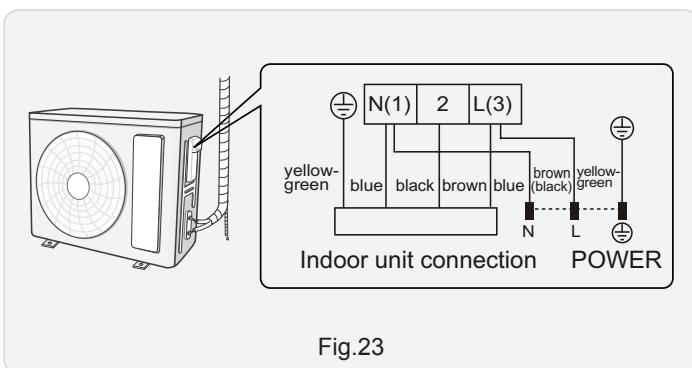

Fig.23
- Remove the wire clip; connect the power connection wire and signal control wire (only for cooling and heating unit) to the wiring terminal according to the color; fix them with screws. (As show in Fig.23)